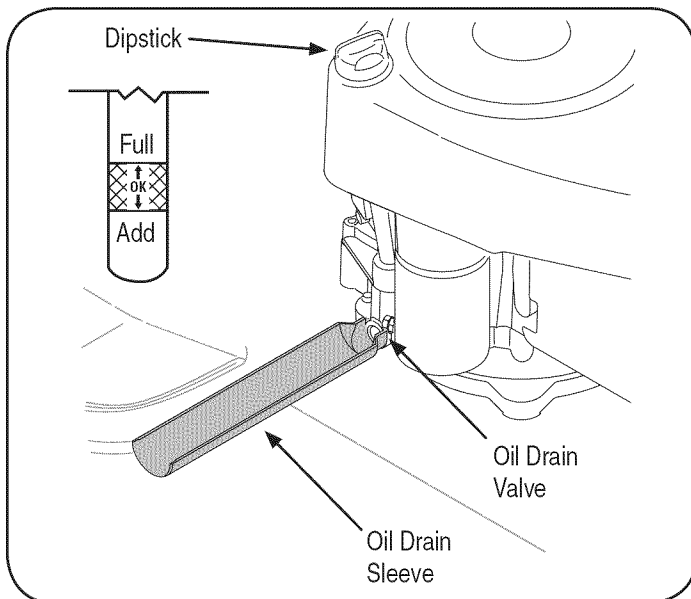

Figure 10
3. Remove the dipstick and check the oil level. It should be at the Full mark on the dipstick. See Figure 10.
2. Remove the oil fill cap/dipstick from the oil fill tube. See Figure 10.
4. Clip the oil drain sleeve (packed with this manual) onto the oil drain port, see Figure 10. Route the opposite end of the sleeve into an appropriate oil collection container with a capacity great enough to collect the used oil.